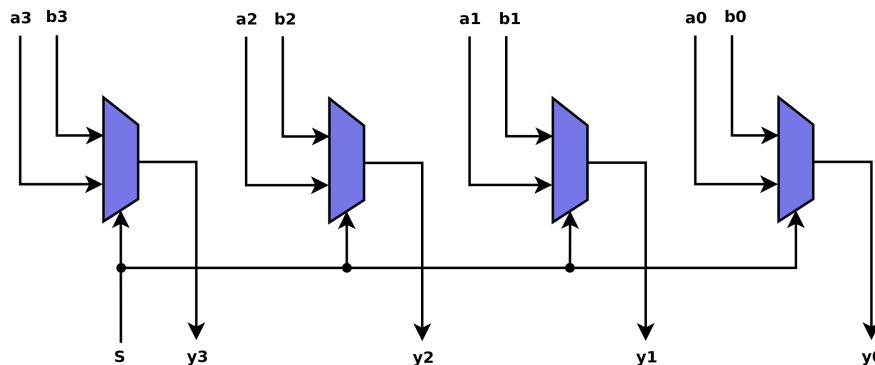

Figure 2: 4-bit wide, 2:1 MUX
1. Figure 2 illustrates how to connect four 1-bit, 2:1 multiplexers together to create a single 4-bit, 2:1